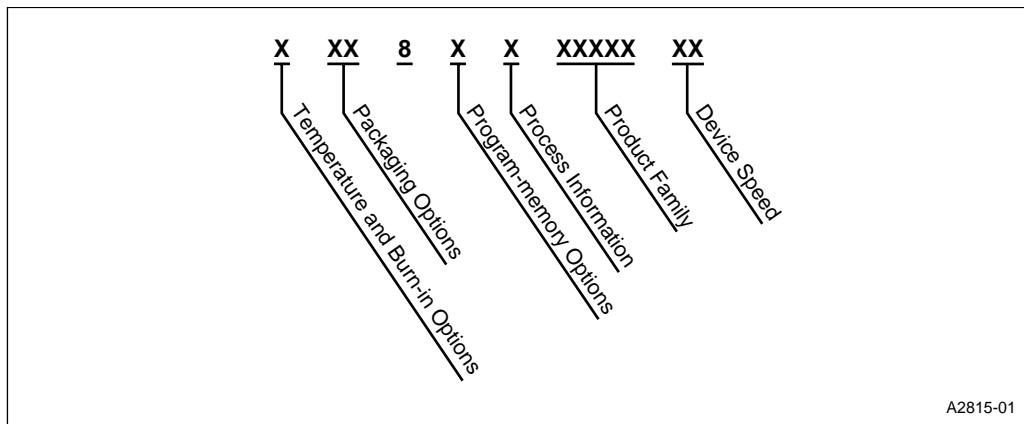

Figure 2. The 8xC251TB/TQ Family Nomenclature
- Figure 2. The 8xC251TB/TQ Family Nomenclature 2
Table 2 lists the proliferation options. See Figure 2 for the 8xC251TB/TQ family nomenclature.